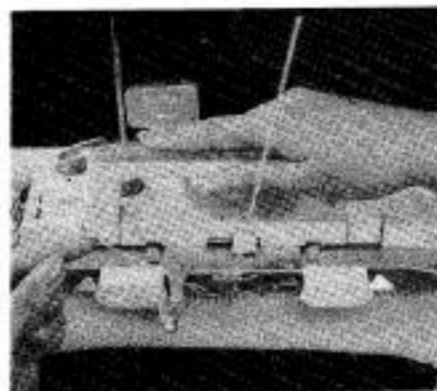

Fig. 52
**1st row** Thread the main colour wool into one of the Main Feeders. With the left hand guide the fine contrasting colour yarn through the leading Subsidiary Feeder (left hand), and move carriage from right to left. (Fig. 52)
2. Never thread the wool through Overhead Yarn Feeder when knitting with Subsidiary Feeder, but always control and guide it with your left hand. (see Fig. 52)